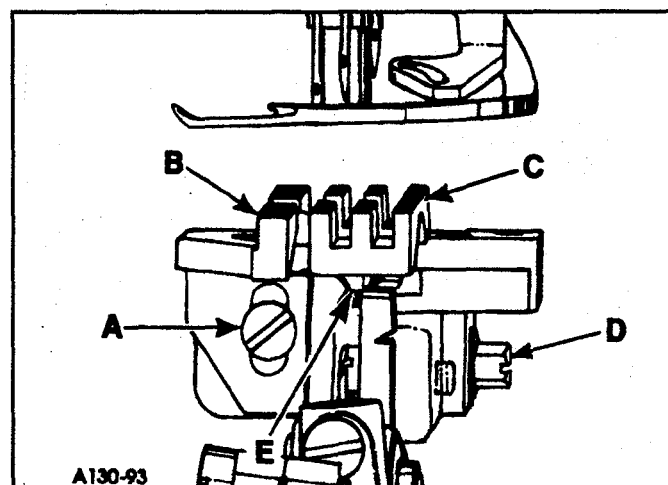

FIG. 11
Height adjustment can be made by loosening screws (A, Fig. 11) for differential feed dog (B); screw (D) for main feed dog (C). Raise or lower as required and adjust screw (E) to support main feed dog (C) before tightening screw (D).